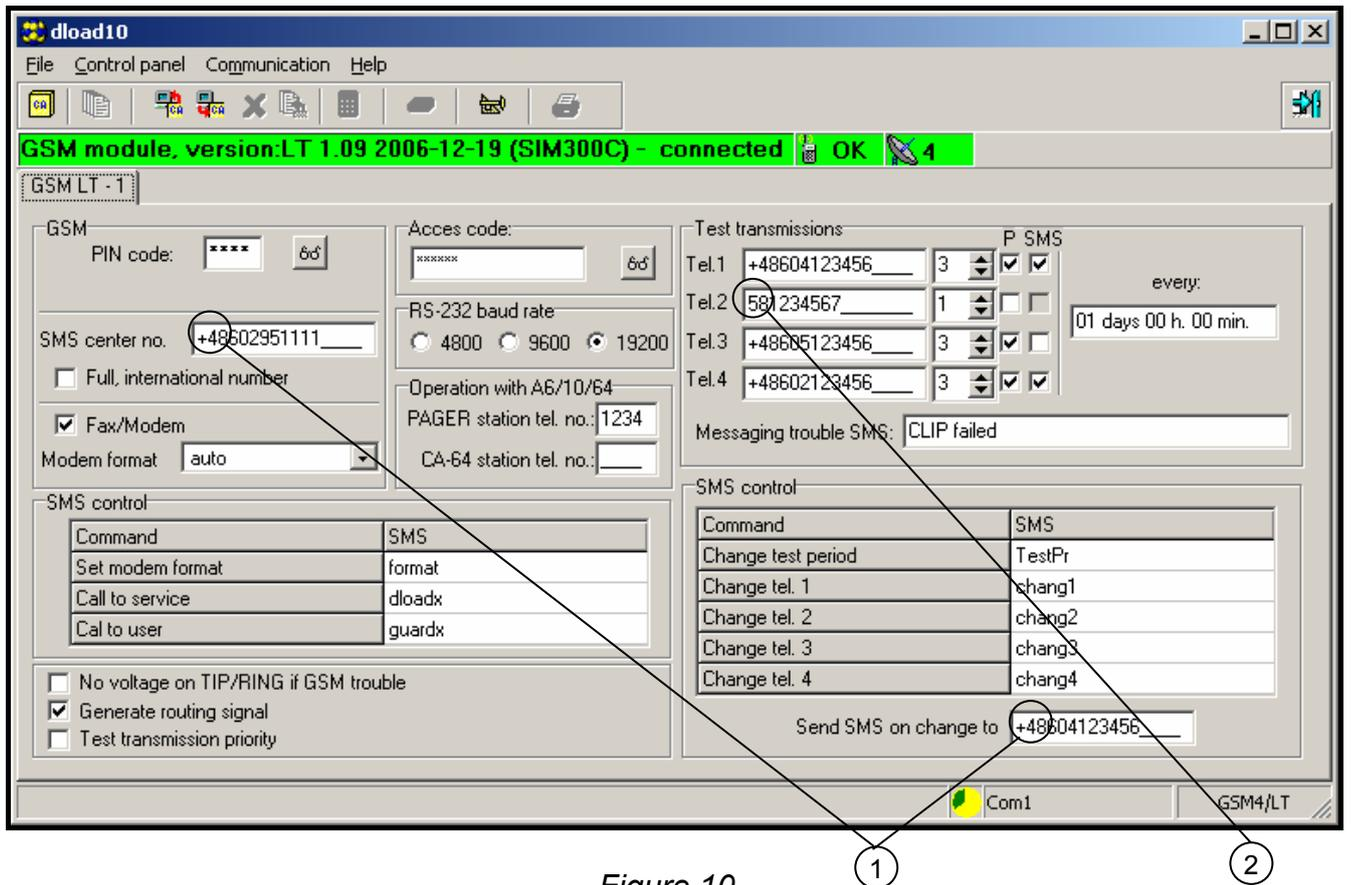

Figure 10.
4. Program the module. Figure 10 shows the window for programming the module settings. The parameter values in the drawing are just an example. The data related to test transmission and SMS control, as well as the PIN code, are not programmed by default. Particular parameters are described in Section „Module Programming”. The line in the upper part of the window shows the current status of the module as well as the antenna signal level.